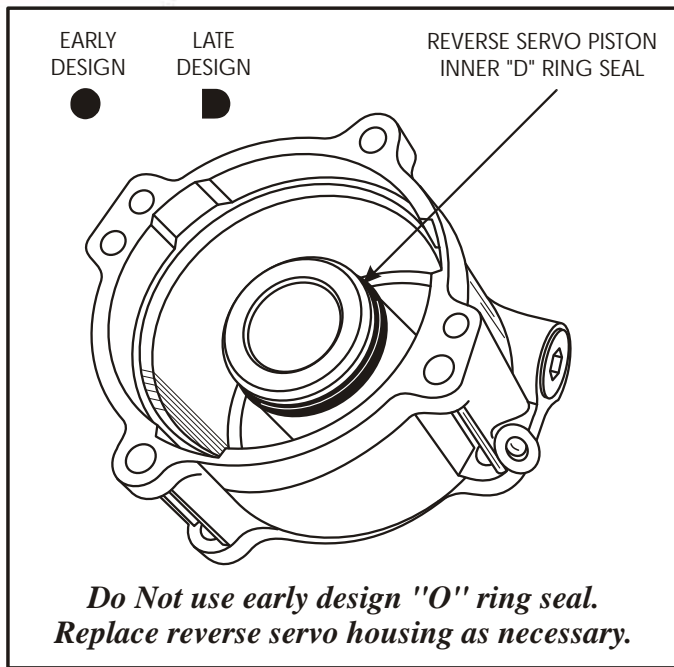

Figure 114
7. Install new reverse servo piston inner "D" ring seal into the groove in reverse servo housing, as shown in Figure 114, and lubricate with a small amount of Trans-Jel®.
Note: If the original seal was an "O" ring seal (Early Design), replace the reverse servo housing and use the "D" ring seal. Refer to Figure 114 for the cross section.